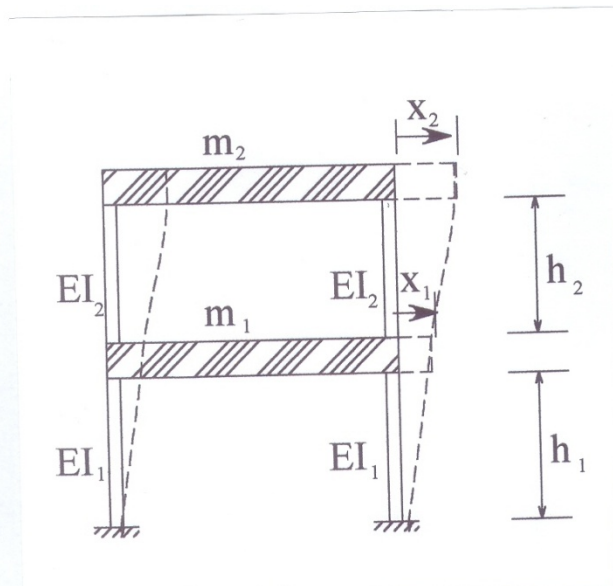

Figure 6
- 6- A two-story building frame is modeled as shown in Figure 6. The girders are assumed to be rigid, and the columns have flexural rigidities EI_1 and EI_2 , with negligible masses. The stiffness of each column can be computed as $24EI_i / h_i$ ($i = 1, 2$). For $m_1 = 2m$, $m_2 = m$, $h_1 = h_2 = h$, and $EI_1 = EI_2 = EI$, determine the natural frequencies and mode shapes of the frame.